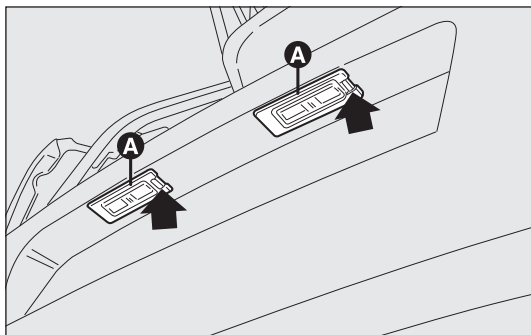

fig. 178
- manipulate the point shown by the arrow and remove the lens unit A-fig. 178;